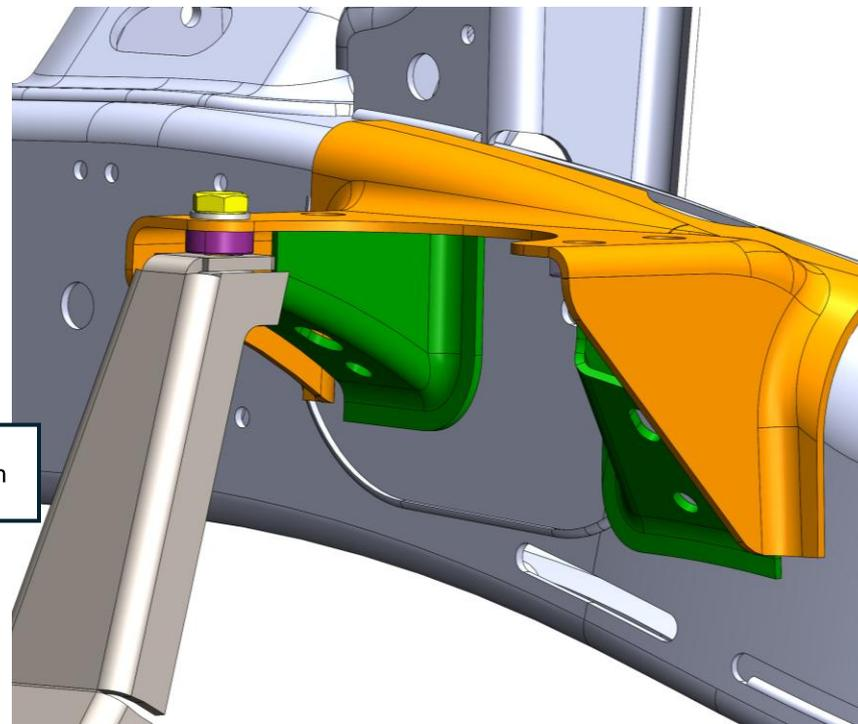

Figure 37: Motor mount bracket loosely installed
30. **Loosely** install the provided passenger-side motor mount bracket using a 17mm socket. See Figure 37 below for clarification. **Install below the motor mount using the provided M10 locknut and washer. Do not install the skid plate yet!**